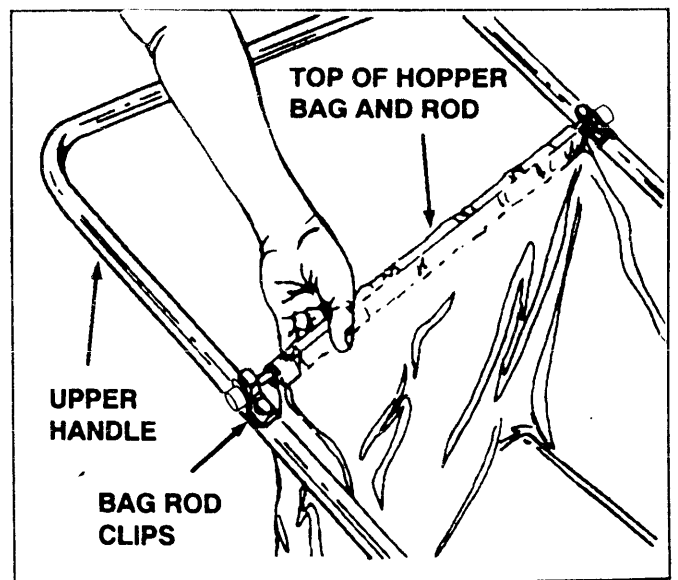

FIGURE 8
- Place the upper hopper bag and bag rod into the bag rod clips on the hopper handle. See figure 8.